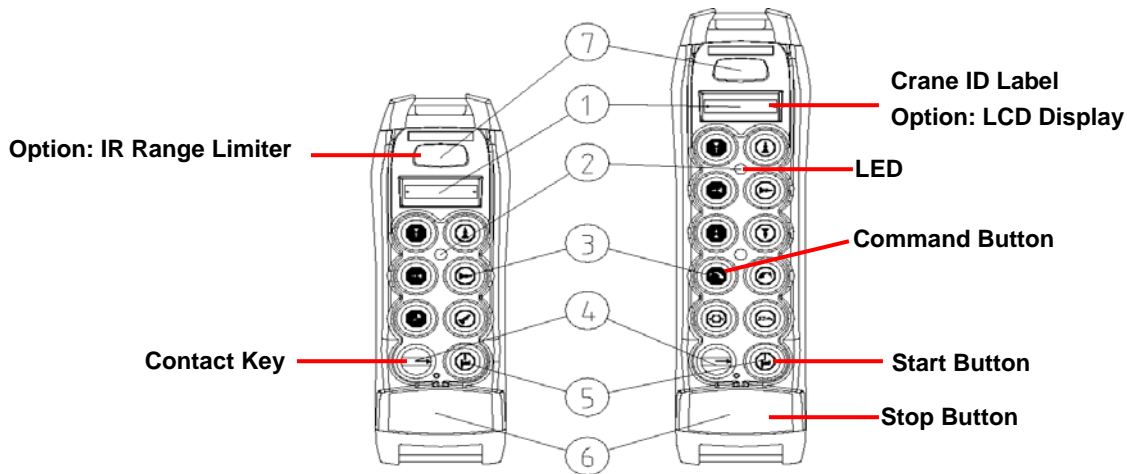

Figure 8: TM70 Transmitter Details
2. Turn the transmitter (Figure 8) ON to OPERATION Mode as follows:
- c. Push in and then pull out the STOP Button. The transmitter LED flashes orange once, and then illuminates green for three (3) seconds. If the transmitter has an LCD, it displays the identification of the machine and the battery level.